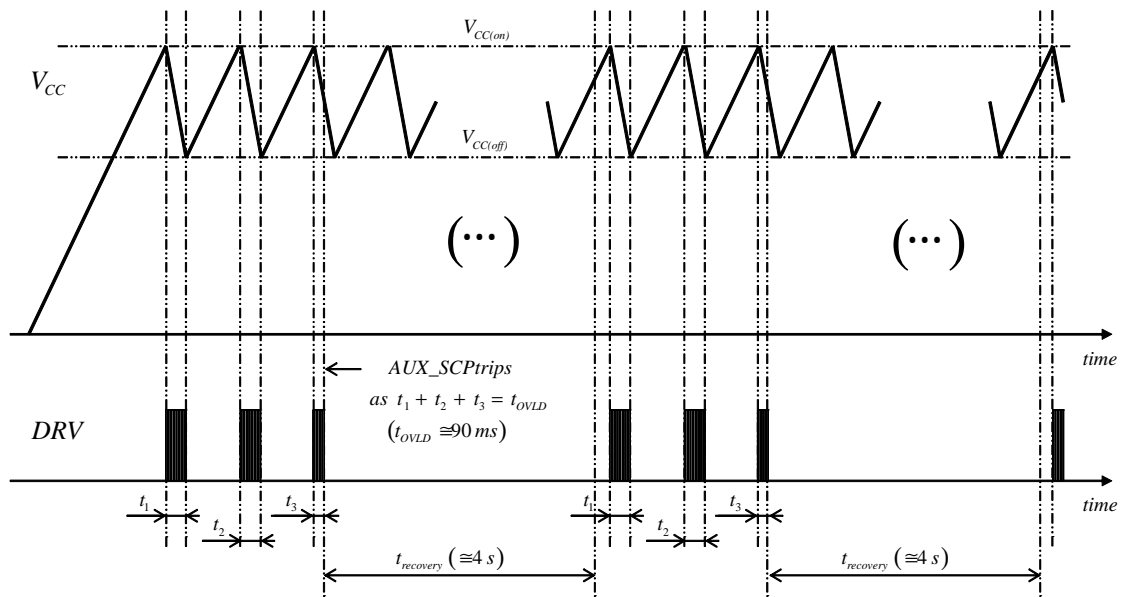

Figure 60. Start-up Sequence in a Load Short-circuit Situation (auto-recovery versions)
- If the load is shorted, the circuit will operate in hiccup mode with V_{CC} oscillating between $V_{\text{CC(off)}}$ and $V_{\text{CC(on)}}$ until the AUX_SCP protection trips (AUX_SCP is triggered if the ZCD pin voltage does not exceed 1 V within a 90-ms operation period of time thus indicating a short to ground of the ZCD pin or an excessive load preventing the output voltage from rising). The NCL30086A and NCL3006C latch off in this case. With the B and D versions, the AUX_SCP protection forces the 4-s auto-recovery delay to reduce the operation duty-ratio. Figure 60 illustrates a start-up sequence with the output shorted to ground, in this second case.